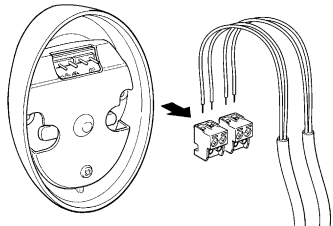

Figure 43
**7** Connect the electric cables to the appropriate OPEN and STOP terminals, as shown in figure 43. It is not necessary to observe any polarity. The terminals can be removed in order to facilitate the operations; make the connections and then reinsert them.